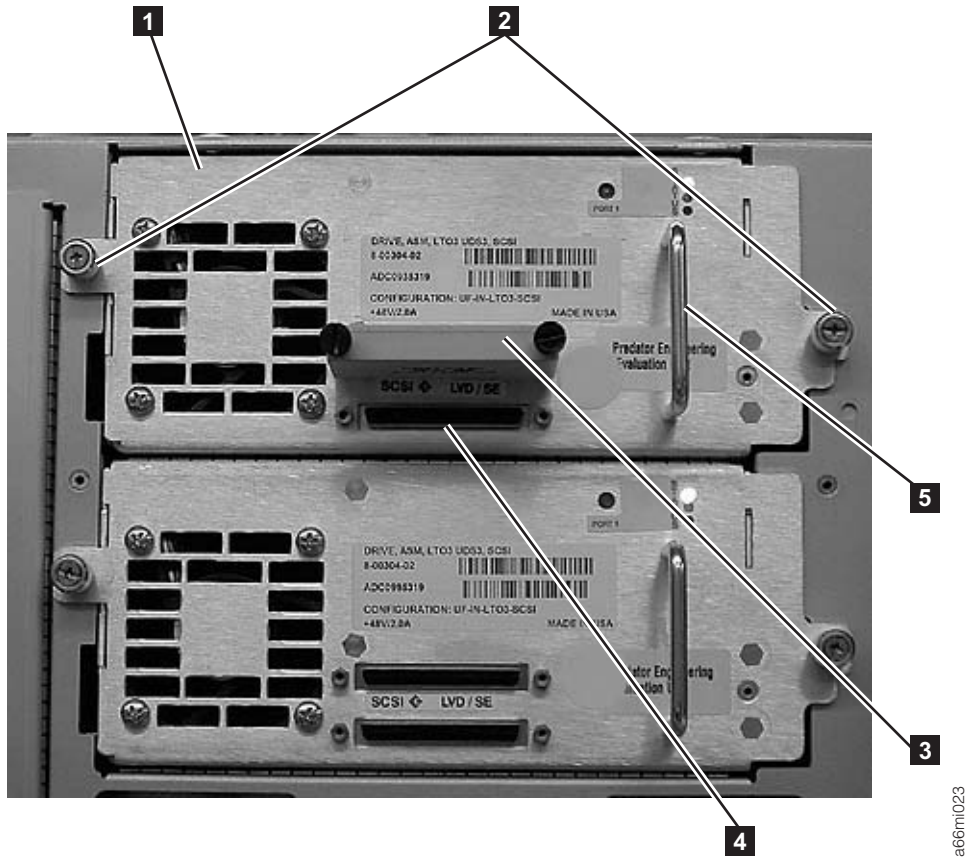

Figure 3-38. Tape Drive (detail)
2. Grasp the handle (**5** in Figure 3-38 on page 3-35) and slowly slide the drive sled into the drive slot, while supporting the drive sled from underneath.
3. Tighten the two thumb screws (**2** in Figure 3-38) that hold the drive sled in place by turning them clockwise.